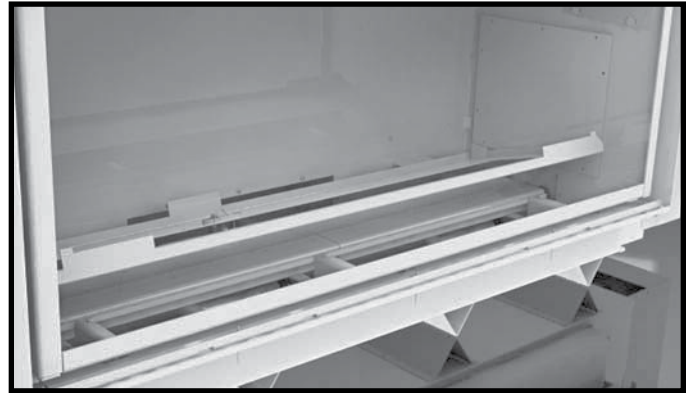

Figure 2: Burner tray installation.
2. Tilt burner tray length-wise and insert into the firebox (Figure 2).